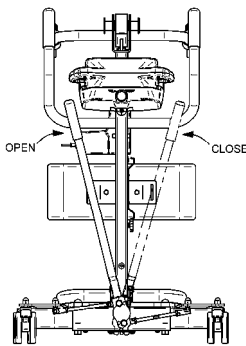

Fig.1
- **Shifter base:** The adjustments are made by changing the position of the shifter: Disengage the shifter plate by pulling the shifter arm then push it to the left will close the legs. Pushing the shifter arm to the right will open the legs (Fig.1).